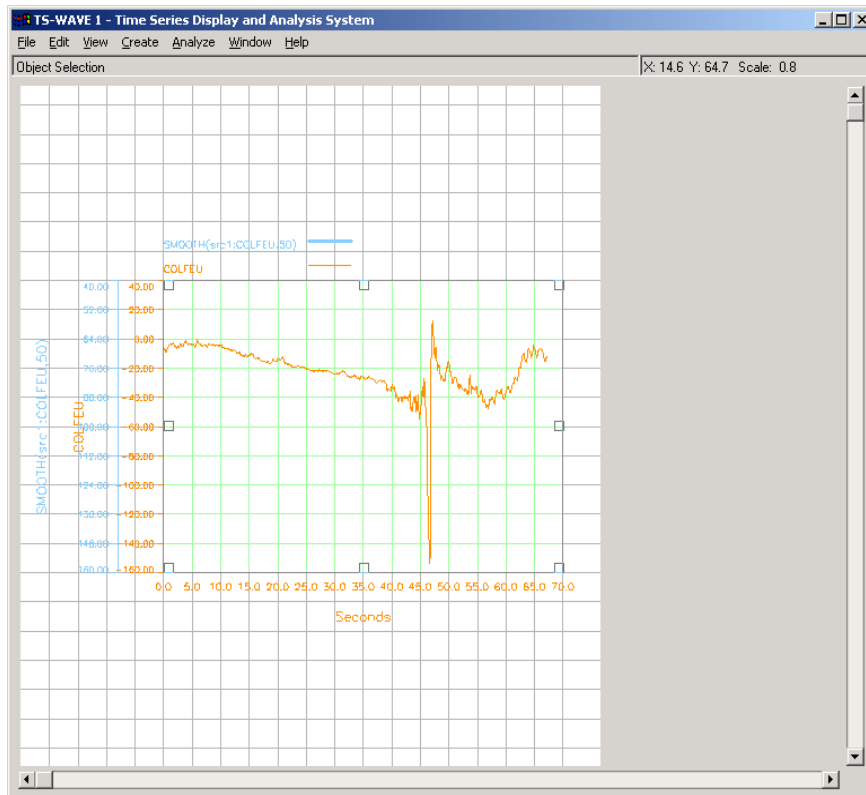

Figure 3-7 The Page contains data plotted from a new derived parameter that used the Smooth function.
- Step 12** Click **OK**. The dialog closes, and both parameters are plotted in the Graph object as shown in Figure 3-7.